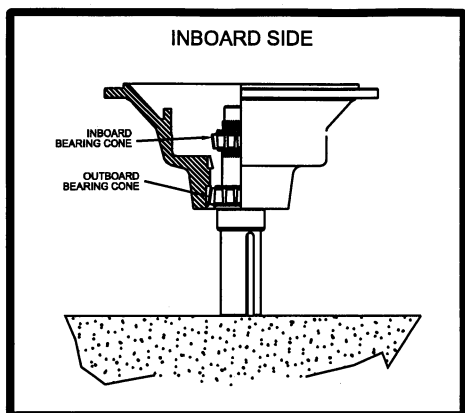

Figure 6.3.4.4 Placing Inboard Bearing Cone on Shaft
**NOTE:** DO NOT push on bearing rollers or bearing cage (reference Figure 6.3.4.2).